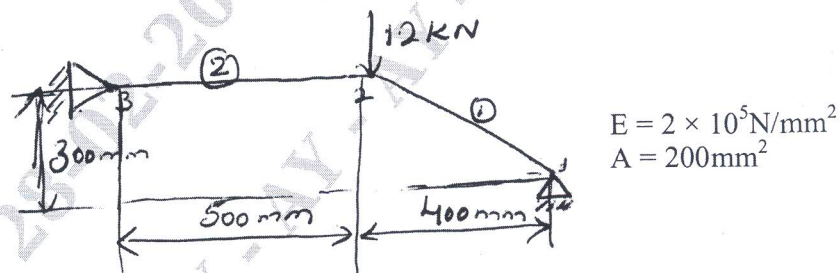

Fig Q6
- 6 For the two bar truss shown in Fig Q6. Determine the nodal displacement stress